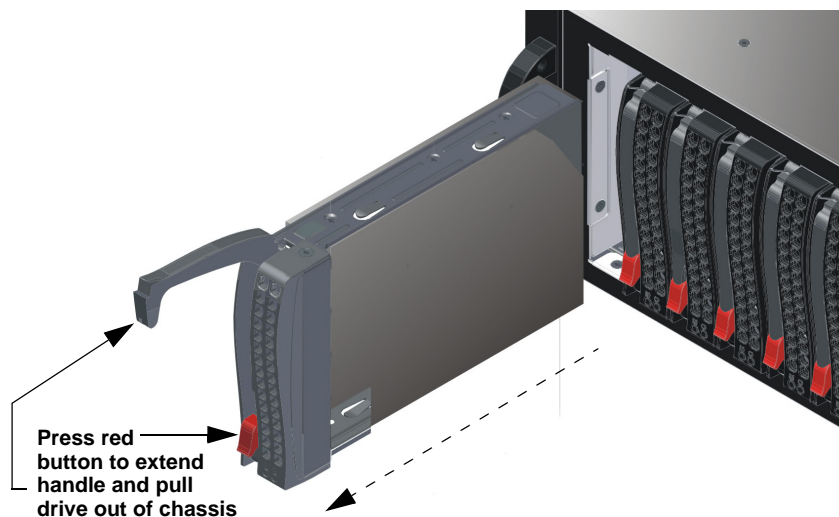

Figure 3 Press Release Button to Extend Handle and Remove Drive
3. Press the failed drive's red release button to extend the drive tray handle, then use the handle to pull the drive tray out of the DSS200 chassis, as shown in Figure 3.